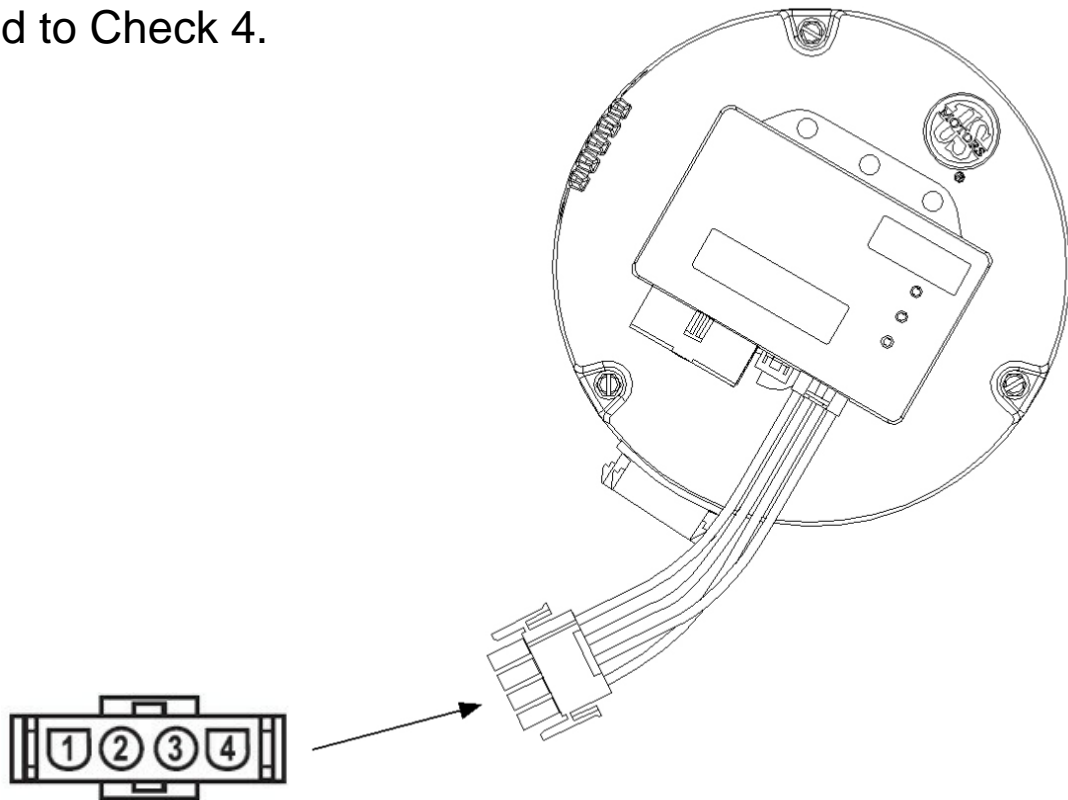

Figure 10
8. Check the voltage between positions 1 and 4 of the communication cable connector [Figure 10].